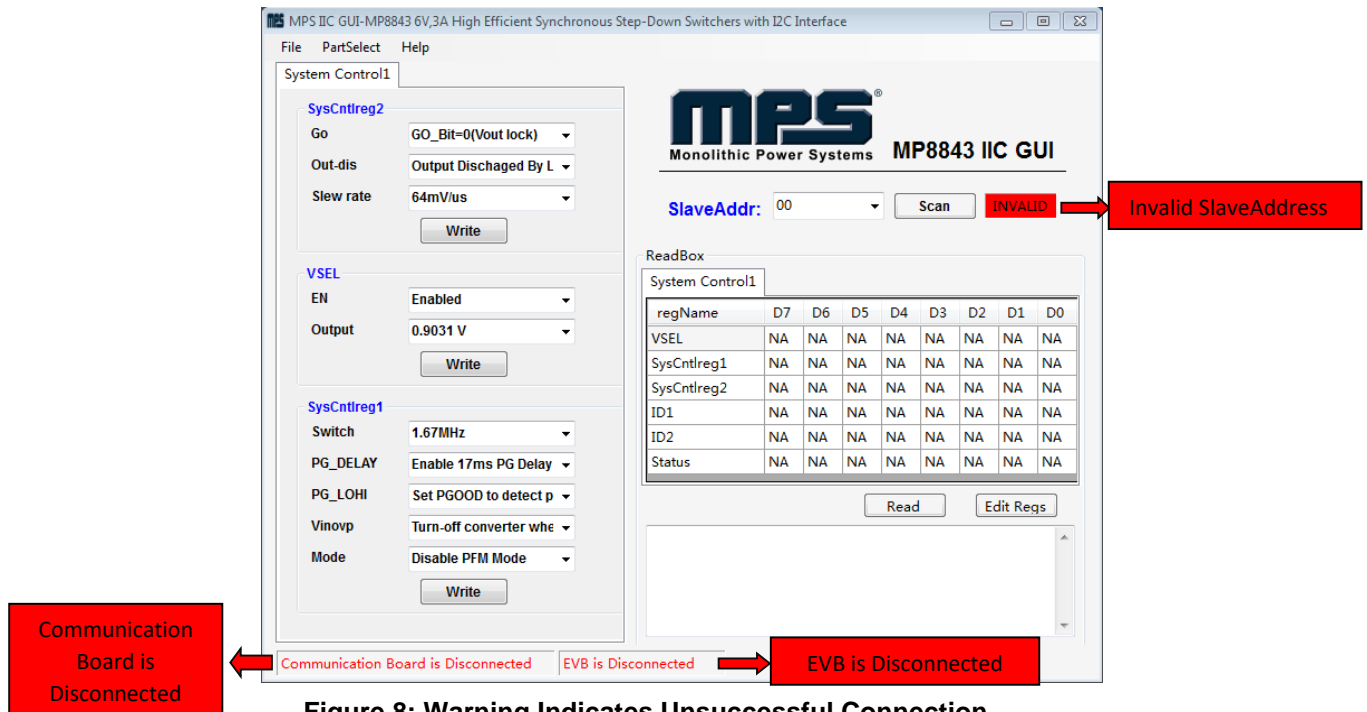

Figure 8: Warning Indicates Unsuccessful Connection
- If connection is not successful, a warning will appear at the bottom. There are two warnings a user can expect (see Figure 8). Each warning indicates an invalid connection.